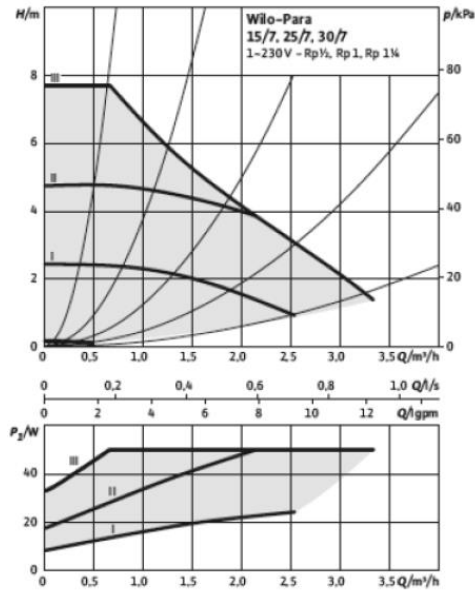

Figure 55 - Pump performance - Constant speeds I, II and III
- Select pump curve (I, II e III - Figure 55) within the control mode.